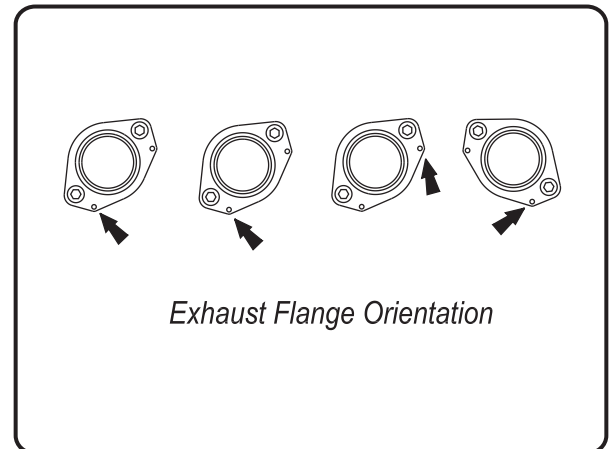

Fig. 5
- 6 Install Yoshimura manifolds and flanges into exhaust ports using stock header nuts (see Fig. 5 for flange orientation).
- 9 Connect header to flanges using the supplied springs (see Fig. 5 for spring locations).